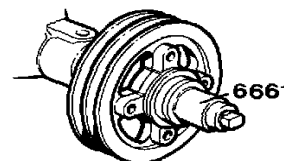

Fig. 192.
8. Remove the tool sleeve, fit the spacer ring and the outer bearing into place in the belt pulley. The encased side of the bearing facing outwards. Re-fit the sleeve and the nut and press in the bearing (fig. 192).